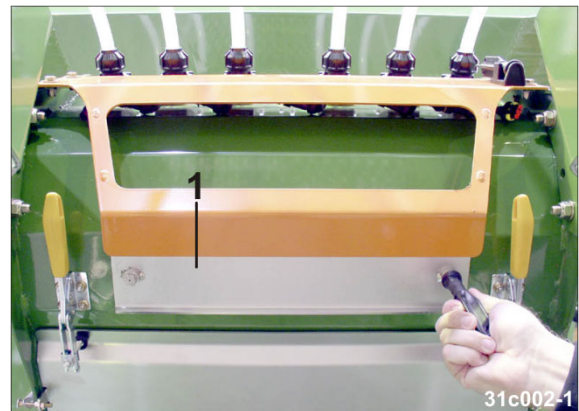

Fig. 274
3. The collection trough (Fig. 274/1) is generally emptied after finishing the field work (see section "Emptying the seed hopper and/or seed singling unit", Seite 186).